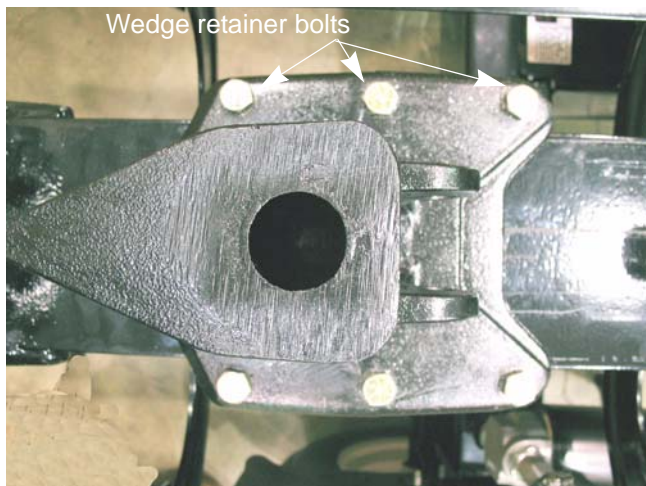

Figure 6.2
4. Remove the six nuts and bolts that attach the wedge retainer plates to the wedge using a pair of 3/4" wrenches. See Figure 6.2.